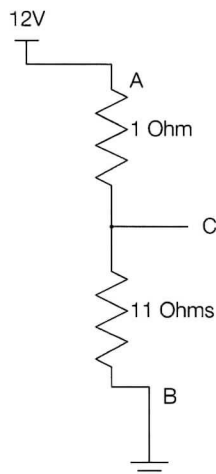

Fig 1f: The Potentiometer represents
The resistance between terminals A and B is fixed, but the resistance between C and the fixed terminals (A and B) is variable. The resistance between A and C plus C and B must always equal the resistance between A and B. Figure 1f shows the equivalent circuit diagram of the potentiometer in terms of fixed resistors. Looking at figure 1f, if a voltage is placed across terminals A and B then the voltage at the wiper (C) will be equal to the ratio of the resistances.
Figure 1f shows a 12-ohm potentiometer,
the value of a potentiometer is always given as that of its fixed value measured between A-B. In our example 12 volts is applied across fixed terminals A and B. The symbol attached to the bottom of the 11 ohm resistor denotes "earth". With the values shown, a current of 1 Amp will flow through the potentiometer (current =  $V/R$ ). Assuming Figure 1f represents a linear law potentiometer (more on this later), then if the wiper (terminal C) of the potentiometer is 1/12 of its travel from terminal A, it has to be 11/12 of the way towards terminal B. The resistance between A and C is 1 ohm and between B and C it is 11 ohms ( $11 + 1 = 12$ ). The ratio of the resistances is 1:11, therefore 1 volt will be "dropped" across the terminals A and C, 11 volts will be dropped across terminals B and C. The voltage on the wiper (point C) will be 11 volts (with respect to B which is at earth potential).